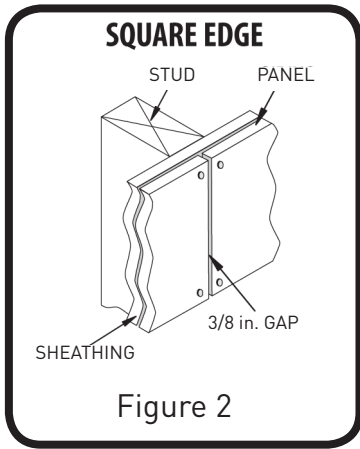

Figure 2
- Panels must have a 3/8 in. gap at the vertical joint (see Fig. 2). This gap must be sealed. It is recommended to cover the joint with a wood batten strip. KWP Trim is recommended for batten material.
- All panel joints must be located on studs (see Fig. 2).